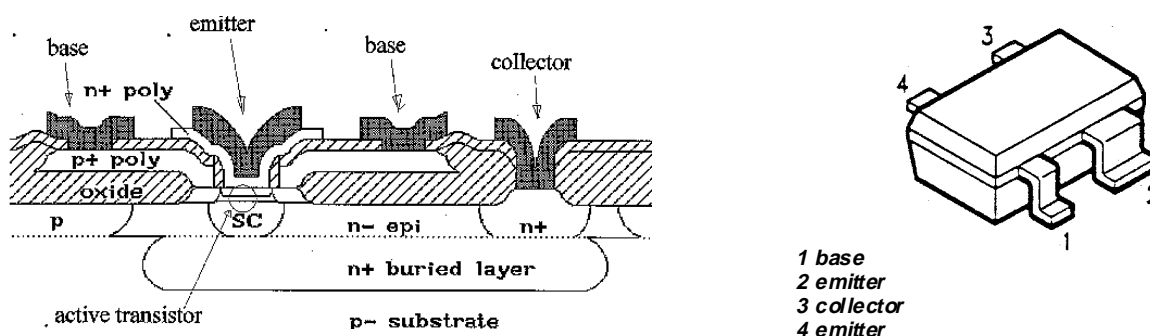

Figure 1: Cross section and package of the double-poly buried layer RF transistors.
This note describes the application of two of the new 5th generation silicon bipolar RF transistors in SOT343R plastic SMD package in a two-stage power amplifier (PA), designed for use in DECT cordless telephone systems. These transistors, manufactured according to the new *double-poly* process, are characterised by their high transition frequency ( $f_T > 20$  GHz) at low supply voltages, resulting in a superior power gain at microwave frequencies, usually a field dedicated to GaAs-devices. Two layers of polysilicon are used: one for contacting the base, yielding a low base resistance and one to form the emitter, resulting in a steep emitter dope profile and an effective emitter width of 0.5  $\mu$ m. A buried N-layer (collector) is placed within a P-substrate, which is connected to the emitter package lead, which enables the die to be placed on the ground plane, reducing emitter inductance and thermal resistance. Figure 1 shows a cross section of a *double-poly* buried layer transistor.